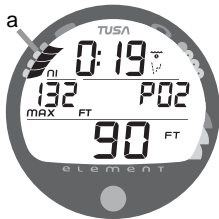

Fig. 25A - PLANNER
- If the Nitrogen Bar Graph is displayed (Fig. 25Aa), that next dive is calculated to be controlled by nitrogen loading.